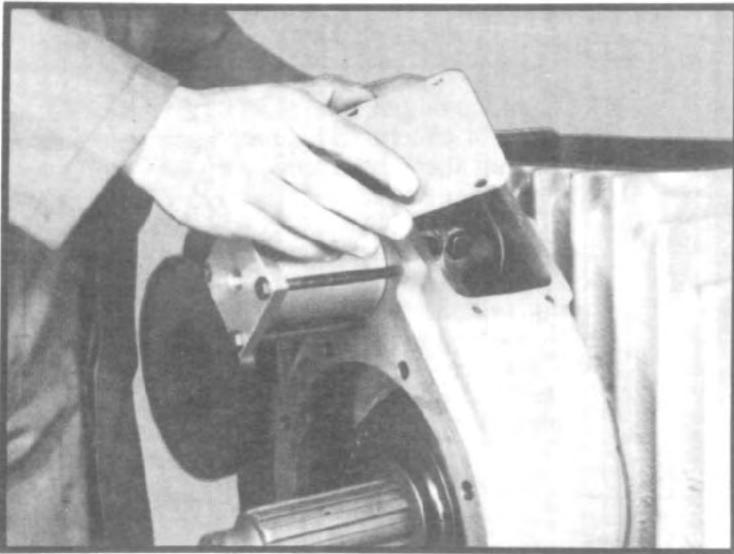

Fig. 10
7. Remove four capscrews from lockout cover plate. Tap plate to loosen and remove. (See fig. 10.)